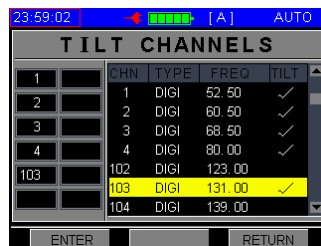

Figure 2-12-6
1. When editing tilt test parameters, move the cursor using or and disable or enable the measured channels by pressing . The channels marked by "✓" will be tested in the TILT item of the auto test procedure. Be sure to confirm the entry by pressing the button and return to the previous menu, as in figure 2-12-6.